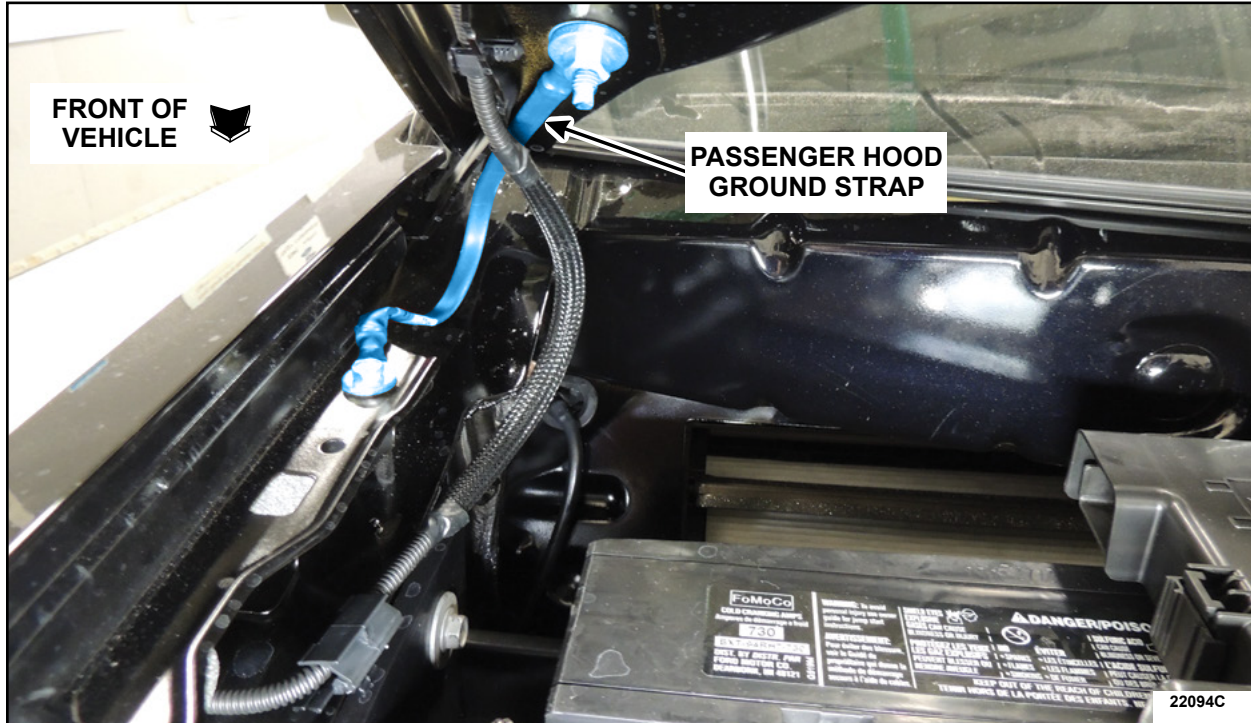

FIGURE 3
9. Inspect for a ground strap located at the passenger side hood. See Figure 3. Was a ground strap found on the passenger side of the vehicle under the hood?